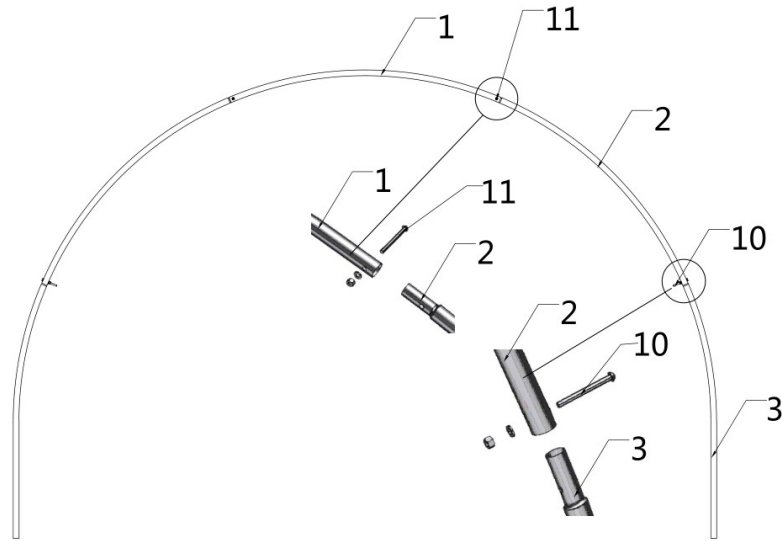

Figure 2
- Parts used to install (2) middle trusses in this step (refer to figure 2).